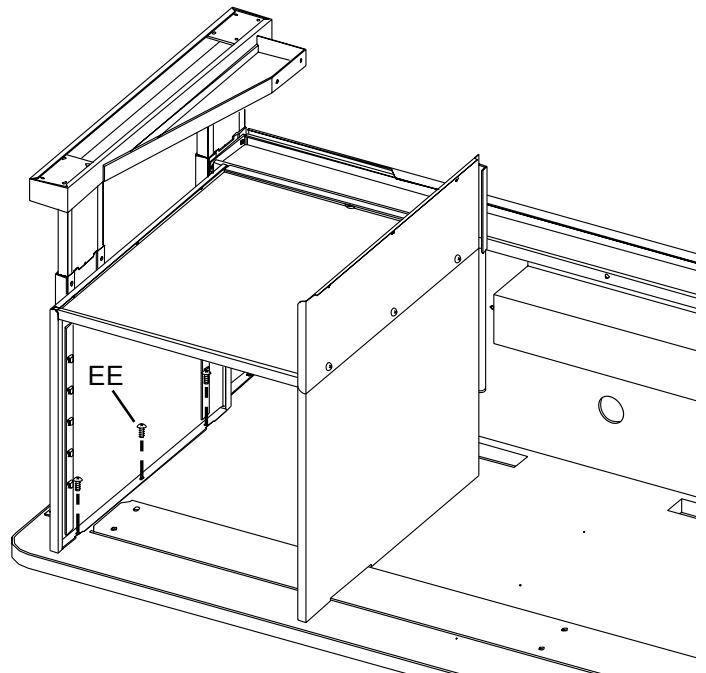

FIGURE 8
Position cabinet onto unit with holes in bottom shelf and modesty panel shelf lining up. Secure through hole with screw (EE) and nut (FF) as shown in **Figure 7**. Secure cabinet sides to wood top using screws (EE) as shown in **Figure 8**. Position the cabinet shelves in desired location once unit is upright.